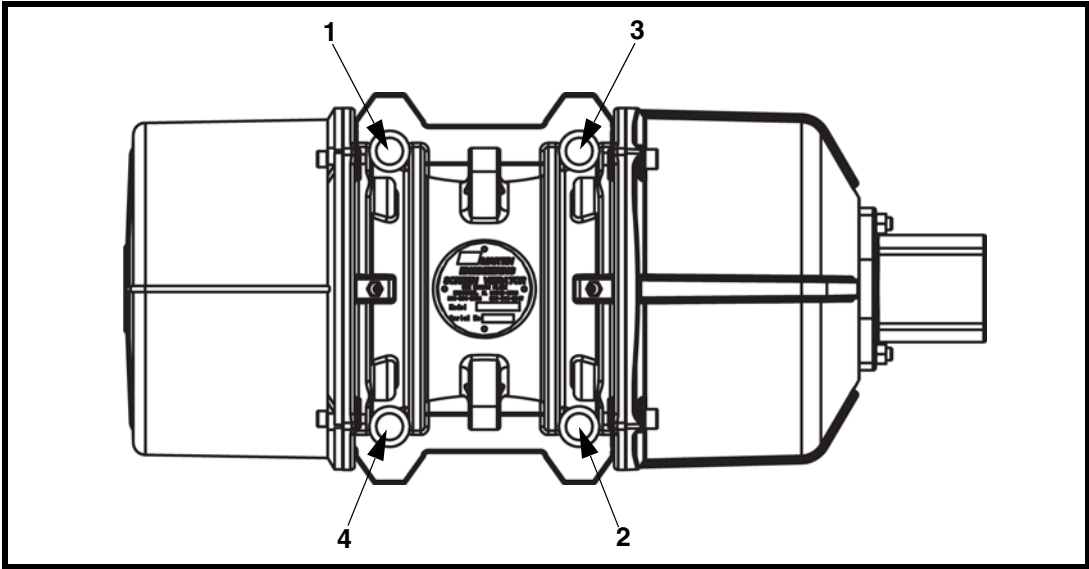

Figure 1. Mounting Bolt Tightening Sequence
Tighten mounting bolts in sequence shown in Figure 1. If not tightened in order, vibrator casting could be damaged.
1. Position screen vibrator mounting holes over mounting holes on screen frame. Use bolts to hold unit in place. Position screen vibrator so bolts are free in holes. (There should be no side load on bolts.) Tighten bolts in order given in Figure 1 to avoid damaging vibrator casting.